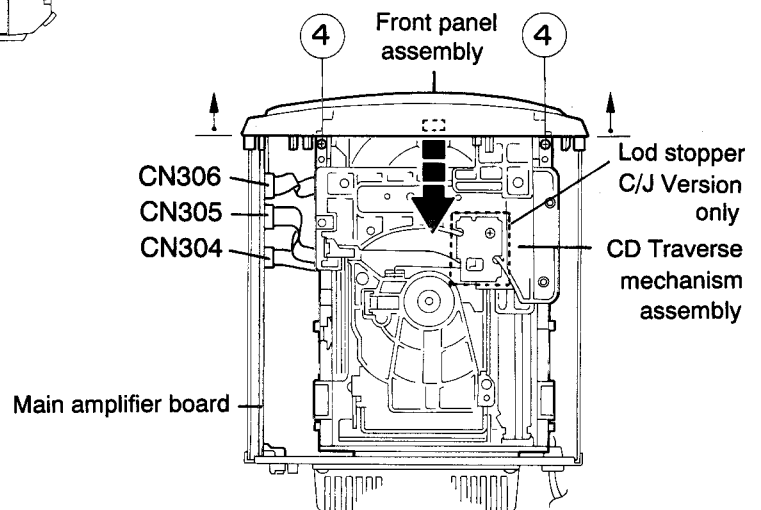

Fig.5-3
3. Remove the two screws ④ fastening the CD traverse mechanism assembly to the top panel of the main unit. (See Fig. 5-3)
4. Disconnect the card wires connected to the CD traverse mechanism assembly from connectors CN304, CN305 and CN306 on the main amplifier board on the right side of the main unit. (See Fig. 5-3)
6. Tilt the front panel assembly slightly forward and remove the CD traverse mechanism assembly from the front panel assembly by shifting in the direction of the arrow and lifting upward. (See Fig. 5-3)